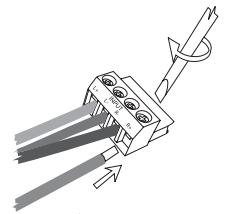

Figure 4
- 2.) Insert each wire from the amplifier into the proper L+, L-, R+ or R- input terminal and use a small screwdriver to tighten each screw; see Figure 4. Make sure to observe proper polarity for each connection.
- 3.) Insert each wire from the speakers into the proper L+, L-, R+ or R- output terminal and use a small screwdriver to tighten each screw; see **Figure 4**. Make sure to observe proper polarity for each connection.